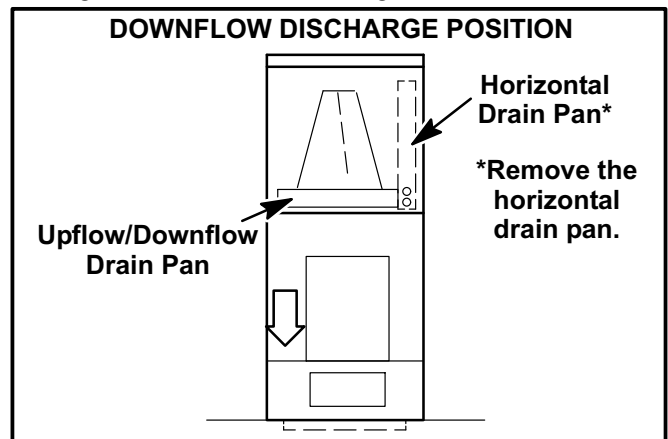

FIGURE 11
- 3 - For best efficiency and air flow, remove the horizontal drain pan from the units in downflow positions. See figure 11.
- 4 - Rotate cabinet 180° from the upright position. See figure 11. You may need to first remove the blower assembly to lighten the cabinet for lifting.
- 6 - Replace the coil assembly and blower if you have removed it. Replace the coil access panel. See figure 11.